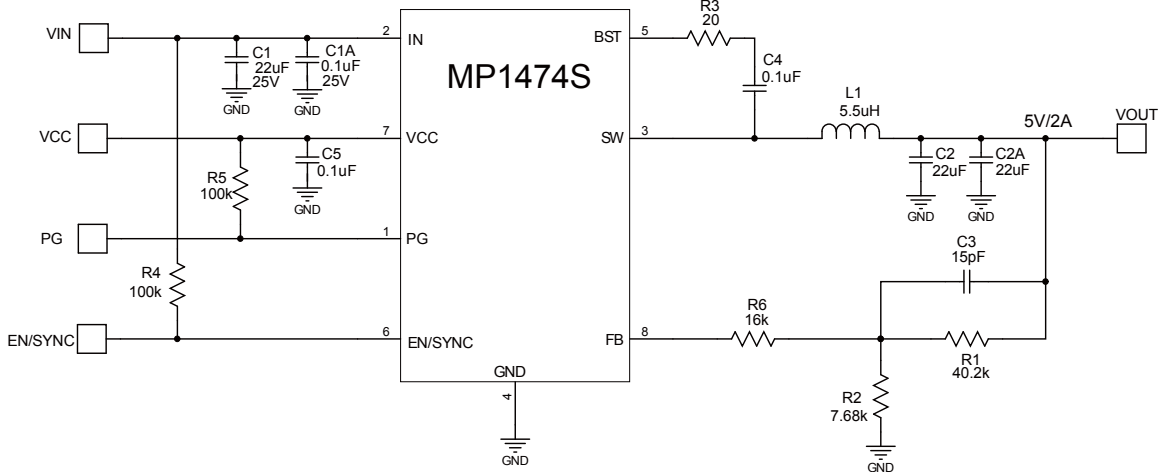

Figure 10. 12V_{IN}, 5V/2A Output
- 9) The recommended layout is based on Figure 10 in the "Typical Application circuit" section on page 17.